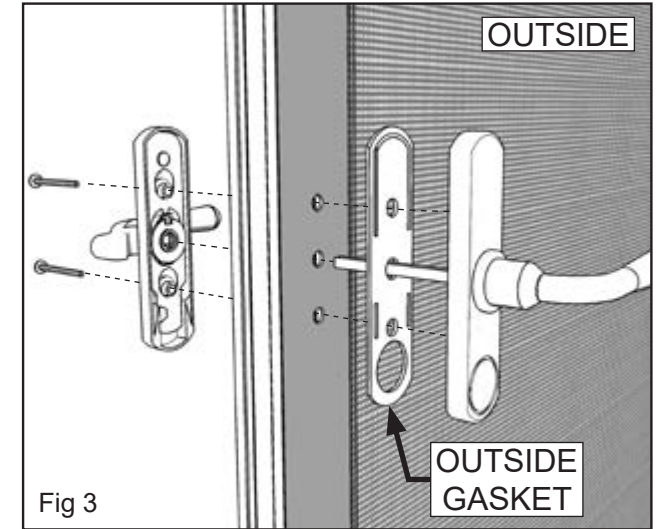

Fig 3
- C. Install handle on door frame with gasket on the outside (**Fig 3**)